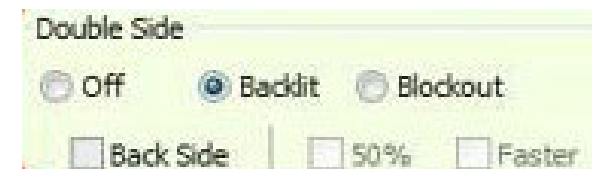

Figure 7-10
4. In the EFI FE, add the job to the queue. In the Job Settings dialog > Double Side group box, select the **Backlit** option, as shown in Figure 7-10.